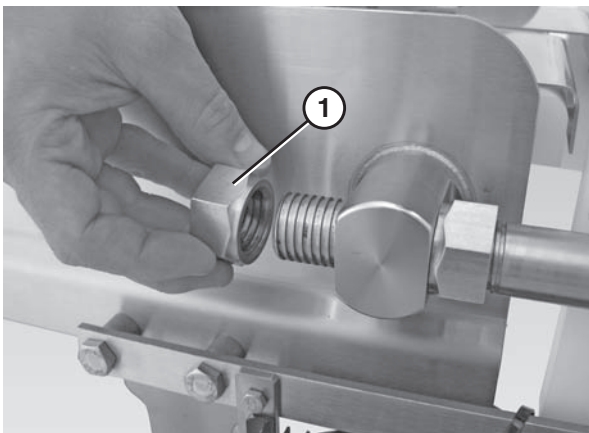

Figure 74
1. Remove the back nuts (Figure 74, item 1) on both discharge nose bar shafts.